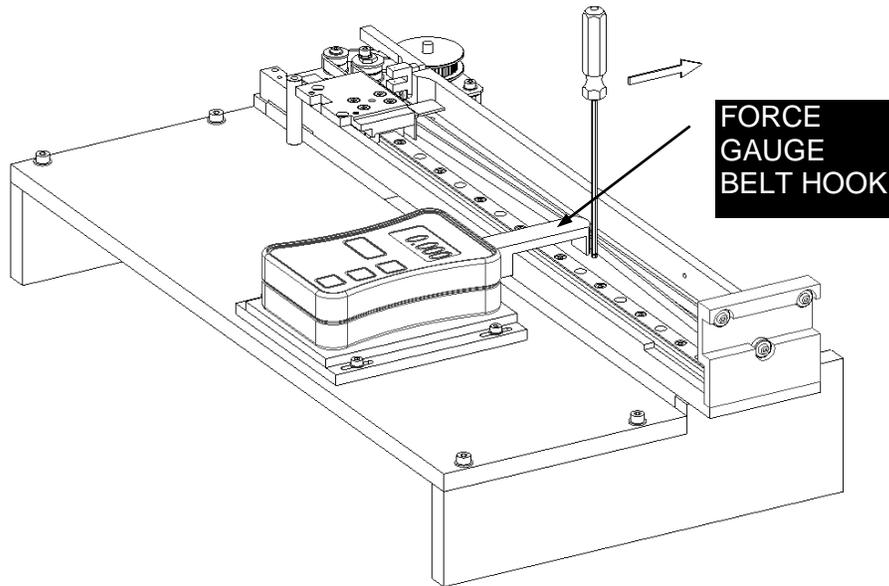

Figure 8-25: Pushing Belt off Belt Hook
9. Use an Allen Key to gently push the Belt off the end of the Force Gauge Belt Hook by 1 to 2 mm and then reposition it before taking each force reading (Figure 8-25).